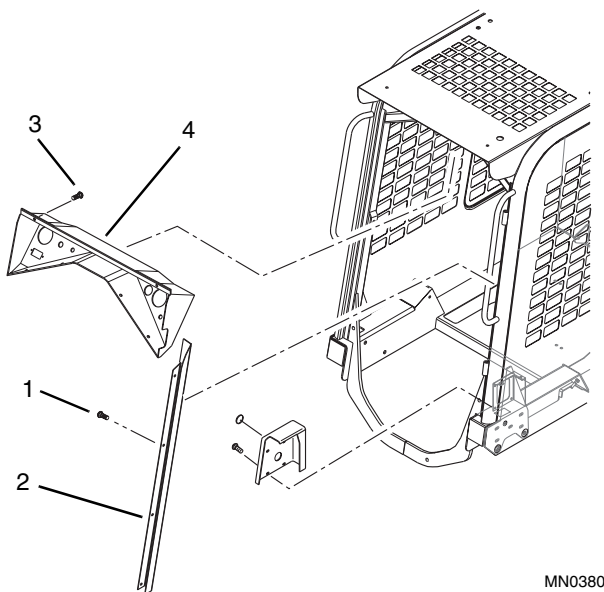

Figure 8-2 Instrument Panel, Cab Harness and Fuse Panel Cover
4. Remove three allen drive screws (Fig. 8-2, 1) that secure the left panel (2) to the Operator's Protective Structure.
5. Remove six allen drive screws (Fig. 8-2, 3) that secure the instrument panel (4) to the Operator's Protective Structure.
6. Pull the instrument panel (Fig. 8-2, 4) from the structure, guiding the wiring harness out of the left channel of the structure as the instrument panel is lowered.
1. Lift the instrument panel (Fig. 8-2, 4) into place in the Operator's Protective Structure, and install six allen drive screws to secure the panel in place.
2. Place the left panel (Fig. 8-2, 2) into position in the structure, and secure with three allen drive screws (1).